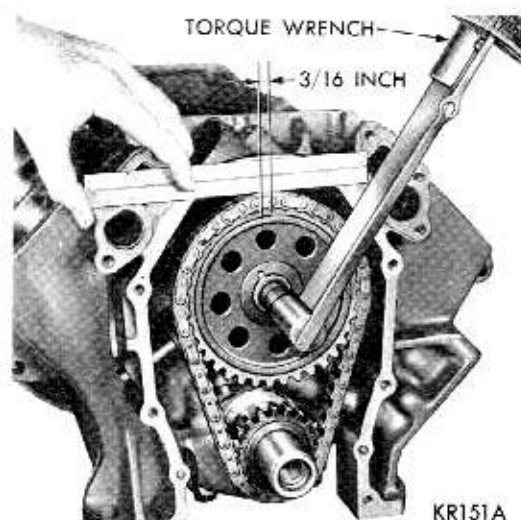

Fig. 20—Measuring Timing Chain Stretch
(1) Place a scale next to the timing chain so any movement of the chain may be measured.
(2) Place a torque wrench and socket over camshaft sprocket attaching bolt and apply torque in the direction of crankshaft rotation to take up slack; 30 foot-pounds (with cylinder heads installed) or 15 foot-pounds (cylinder heads removed). With torque applied to the camshaft sprocket bolt, crankshaft should not be permitted to move. It may be necessary to block crankshaft to prevent rotation.
(3) Holding a scale with dimensional reading even with edge of a chain link, apply torque in the reverse direction 30 foot-pounds (with cylinder heads installed) or 15 foot-pounds (cylinder heads removed), and note amount of chain movement (Fig. 20).
(4) Install a new timing chain, if its movement exceeds 3/16 inch.
(5) If chain is satisfactory, slide crankshaft oil slinger over shaft and up against sprocket (flange away from sprocket).
(6) If chain is not satisfactory, remove camshaft sprocket attaching bolt and remove timing chain with crankshaft and camshaft sprockets.